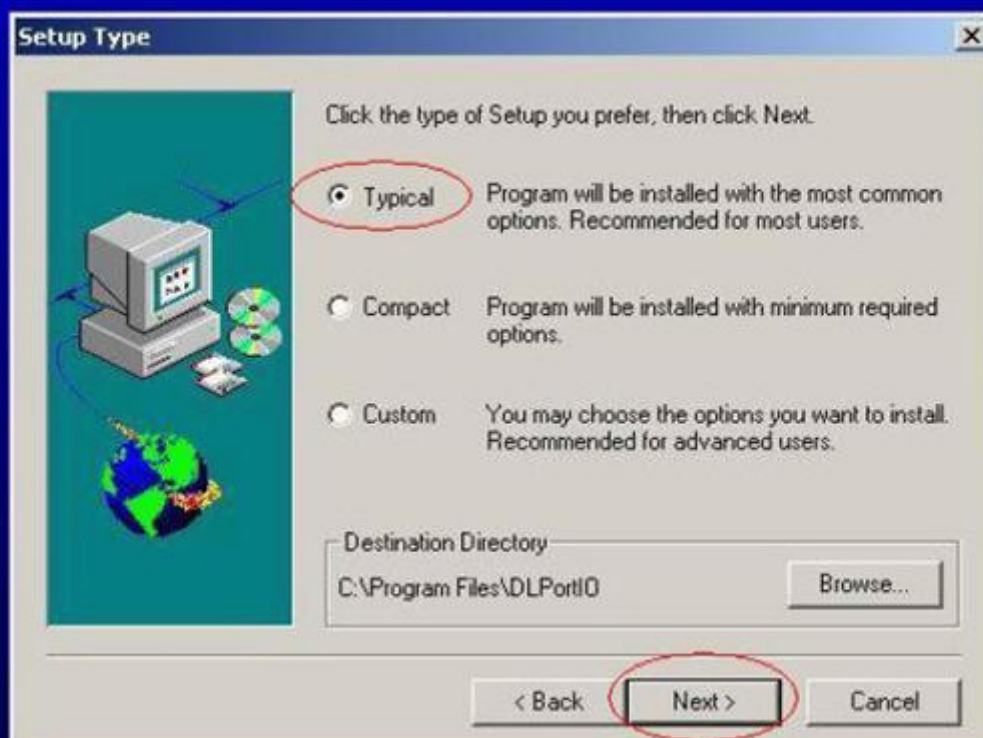

Fig. 0.3
0.3 Choose “ Typical “ then press “ Next “ , see Fig. 0.3